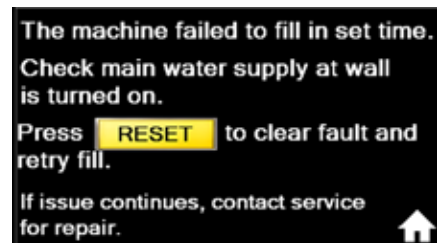

Fig. 99c - Follow instructions on screen
- Press the  icon and an instruction screen appears. Follow the instructions and press RESET, (Fig. 99c).